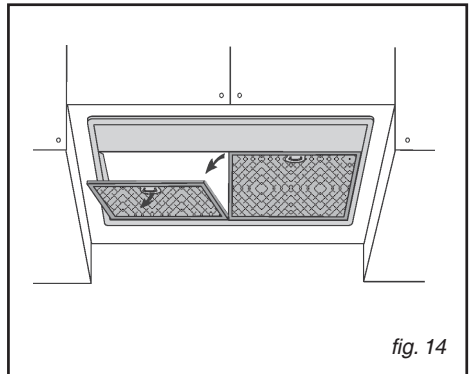
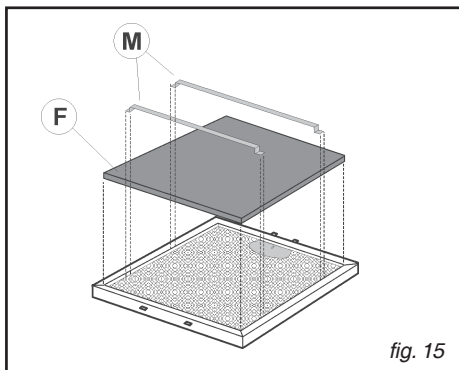
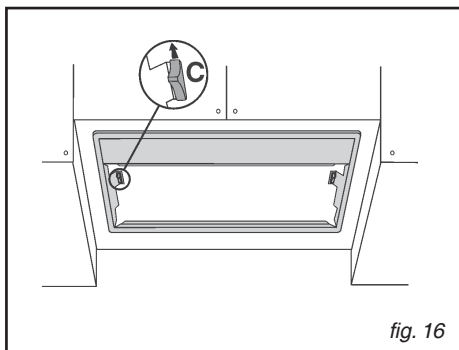

fig. 14
fig. 15
fig. 16
• Removing the grease filters (fig.14)
- **Removing the charcoal filter/s (fig.15)**
To take away the charcoal filters, firstly you need to take away the grease filters (Fig.14). Later, take away the filters-stop (M) and the charcoal filters (F) - Fig. 15.
To replace the lamps, take away the grease filters (Fig. 14); take away the filters support moving the 2 lateral locks C (Fig. 16). Tighten the lamps and replace them with the new ones of the same type.